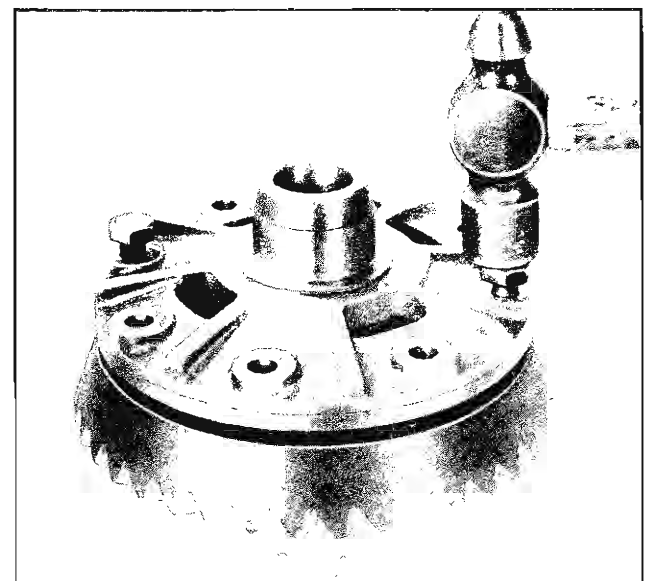

Fig. 4-32 Removing Ring Gear from Case
5. Using ball peen hammer, tap ring gear off of case (Fig. 4-32).